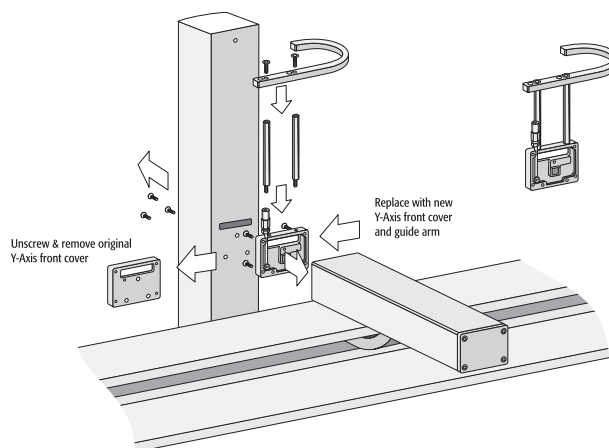

Figure 7. Replacing original Y-Axis Front Cover
3. Mount the Hoop Guard (guide arm) on top of the Front Cover as shown in Figure 7.